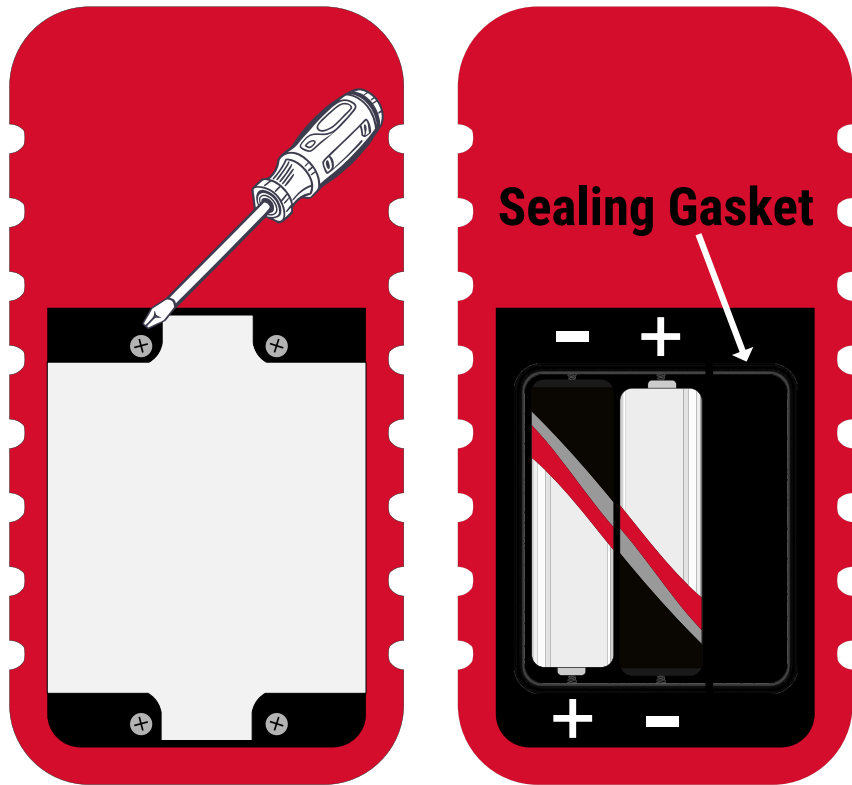

Figure 2 - HH2S Battery Compartment
2. If installing batteries in an empty battery compartment, install two fresh size AAA cell batteries. Be sure to position the batteries as shown in Figure 2.
3. If replacing expired batteries, remove the old batteries, and install two fresh size AAA batteries. (Discard the used batteries according to local regulations.) Be sure to position the batteries as shown in Figure 2.